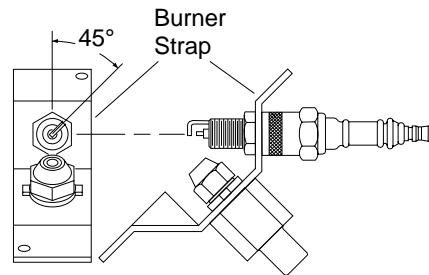

Figure 19 - Spark Plug Rotation, 35 Model Only
5. Remove two (2) screws using 5/16" nut-driver and remove burner strap.
10. Replace burner strap onto spark plug. Rotate burner strap to position spark plug electrodes as shown in Figure 19.